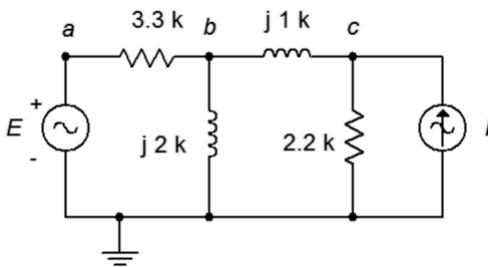

Figure 6.23
45. Given the circuit in Figure 6.23, use nodal analysis to determine  $v_c$ .  $E = 40\angle 180^\circ$ ,  $I = 20\text{E}-3\angle 0^\circ$ .
46. Use nodal analysis to find the current through the  $2.2\text{ k}\Omega$  resistor in Figure 6.23.  $E = 240\angle 0^\circ$ ,